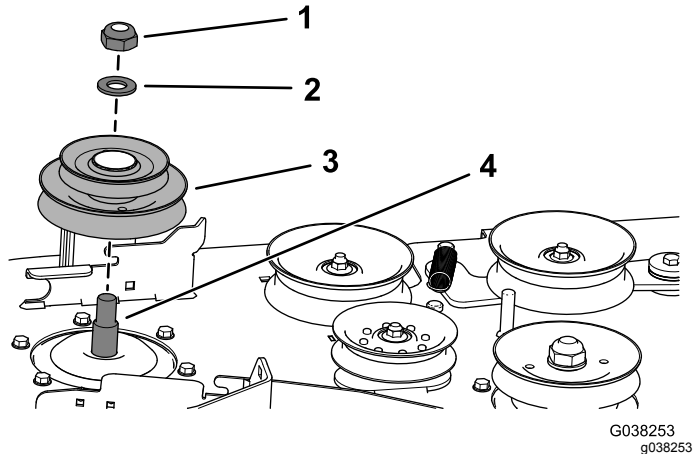

Figure 28
- A. Use the locknut (3/4 inch) and washer to secure the new double pulley onto the right spindle shaft (Figure 28).